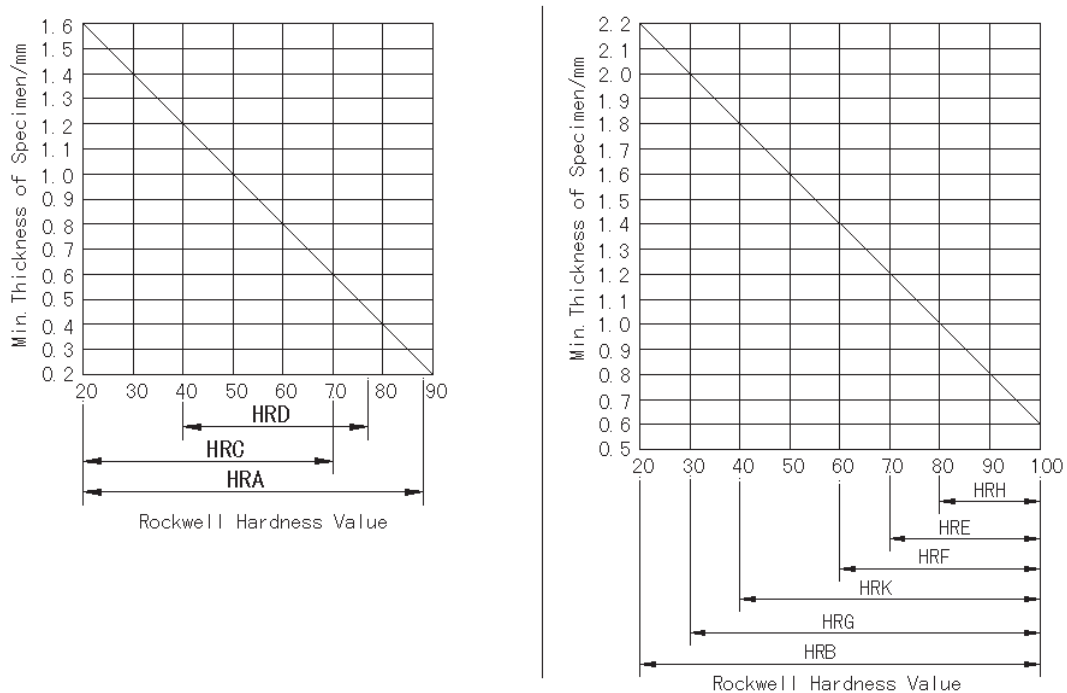

Fig 4
5.1.2 The Min. thickness of the specimen should be superior to 10 times depth of the indentation. After the test, the back of the specimen should not have any visible signs of deformation (Fig.4).